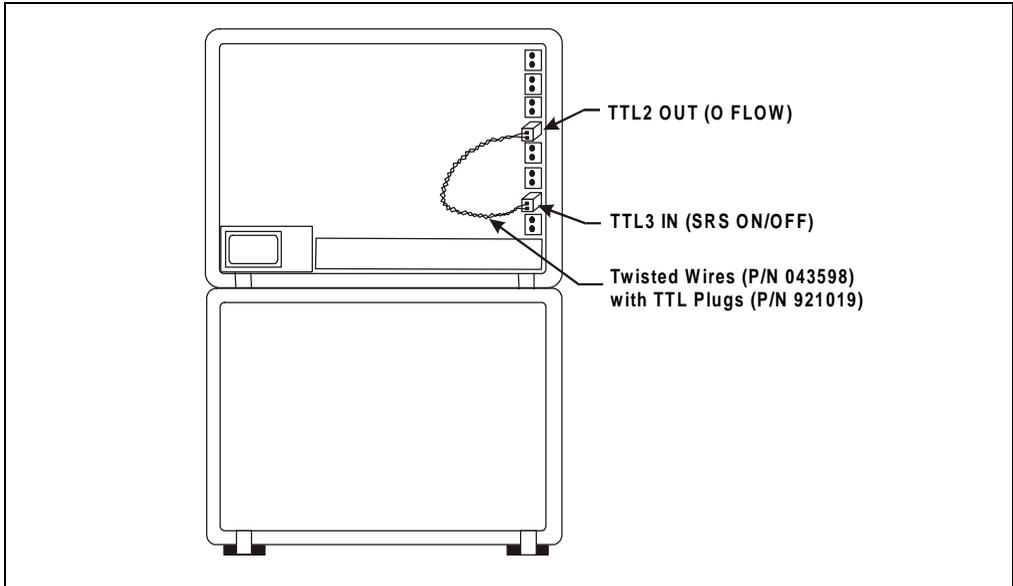

Figure B-5. TTL Connections for SRS Power Control
5. Plug one end of the cable into **TTL2 OUT** on the IC20 (see Figure B-5). Plug the other end of the cable into **TTL3 IN**.